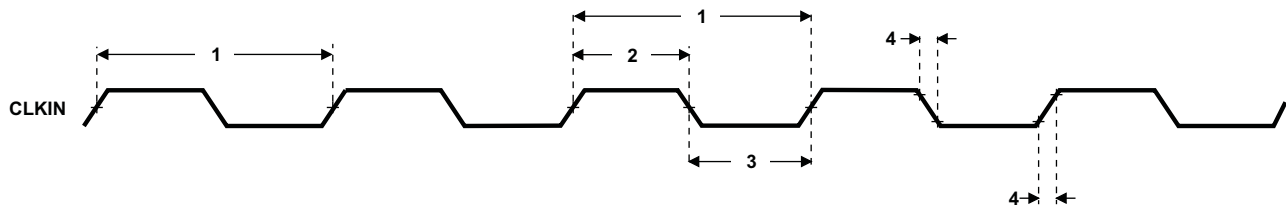

Figure 6-7. CLKIN Timing
Table 6-3. Timing Requirements for CLKIN^{(1) (2)} (see Figure 6-7)